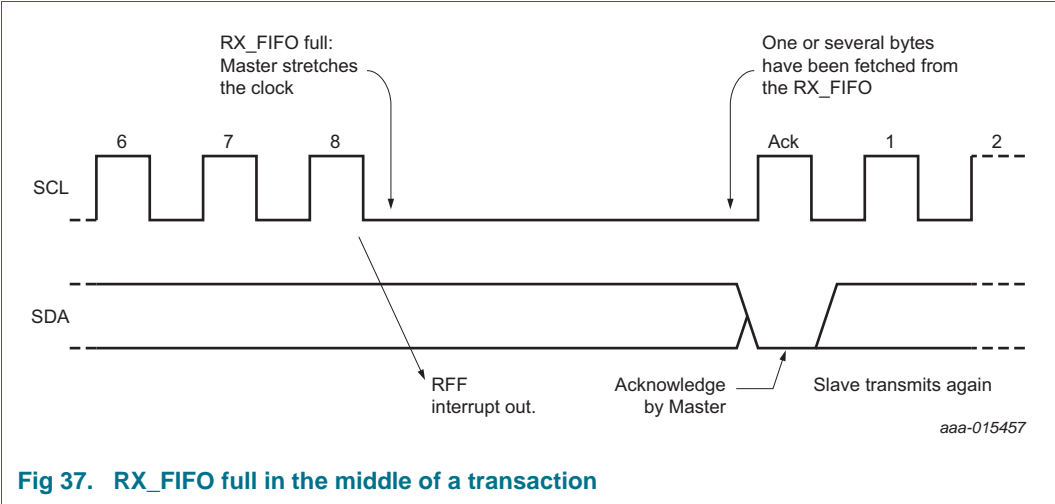

Fig 37. RX_FIFO full in the middle of a transaction
2. For each data byte requested by the master, a dummy byte (i.e. the value of the data byte can be anything from 0x00 to 0xFF) must be loaded into the TX_FIFO, so that the master acknowledges the data bytes it receives. Please note that the acknowledge bit is generated automatically; no specific programming is required for it. The received (acknowledged) data bytes will be stored in the RX_FIFO (address 0x000), from where they can be fetched by the bus system interface. If the RX_FIFO happens to be full (interrupt RX_FIFO_FULL) in the middle of a transaction, the master will automatically stretch the clock before the acknowledge of the last byte that is stored, until some room is made in the RX_FIFO, refer to Figure 37. The data is actually written into the RX_FIFO on the 8th clock cycle, so it can be read by software even if the clock is currently stretched in the Ack cycle (9th clock) due to RX_FIFO_Full.